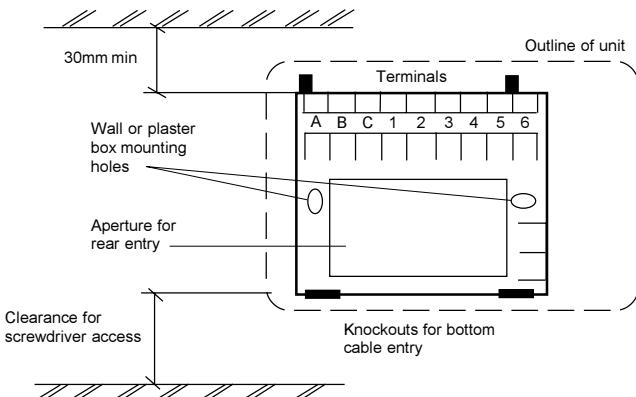

Fig. 3 Wallplate fixing clearances.
- When fixing the heating controller wallplate note that the terminals are at the top and the vertical centre line of the heating controller is at the right hand edge of the terminal 4 recess. Observe the clearance required for fitting and removal, Fig. 3.